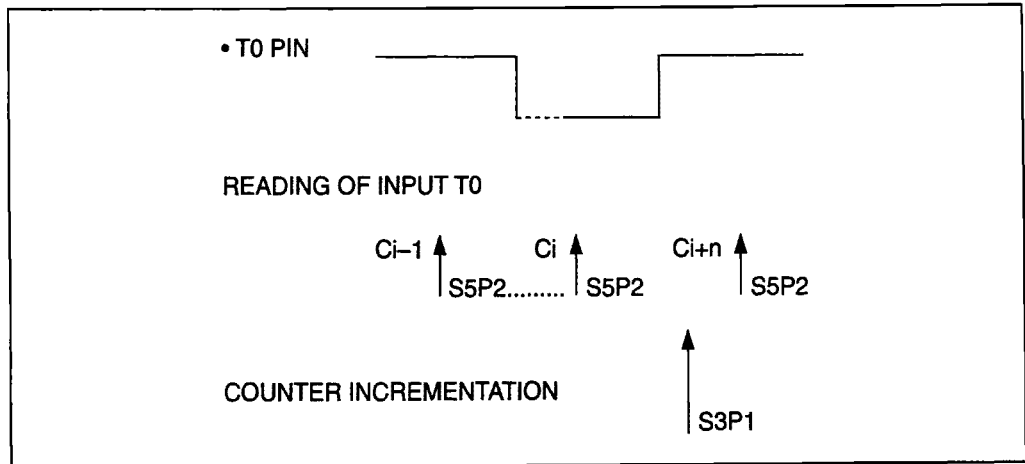

Figure 14 : Counter Incrementation Condition.
- In this mode, T32 = 0 and  $C/\overline{T0} = 1$ . Before it can make an increment, the 83C154 $\mu$  must detect two transitions on its T0 input. As shown in figure 14, input T0 is sampled on each S5P2 state of every machine cycle or, in other words, every OSC + 12.